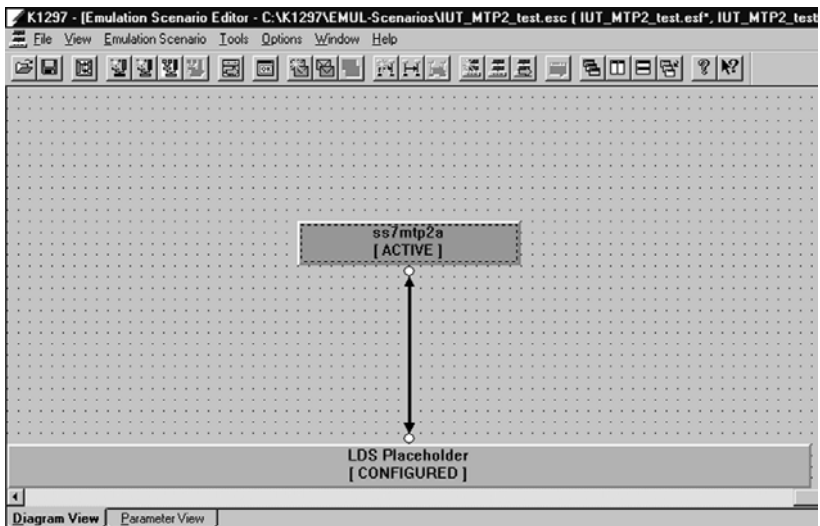

Figure 6: Emulation started and in the *ACTIVE* state
1. Change to *Diagram View* to check that the MTP layer 2 emulations of both branches have started and are in *ACTIVE* state (see figure 6). Refer to topic *Checking Emulation States* in the *Online Help* for further information.